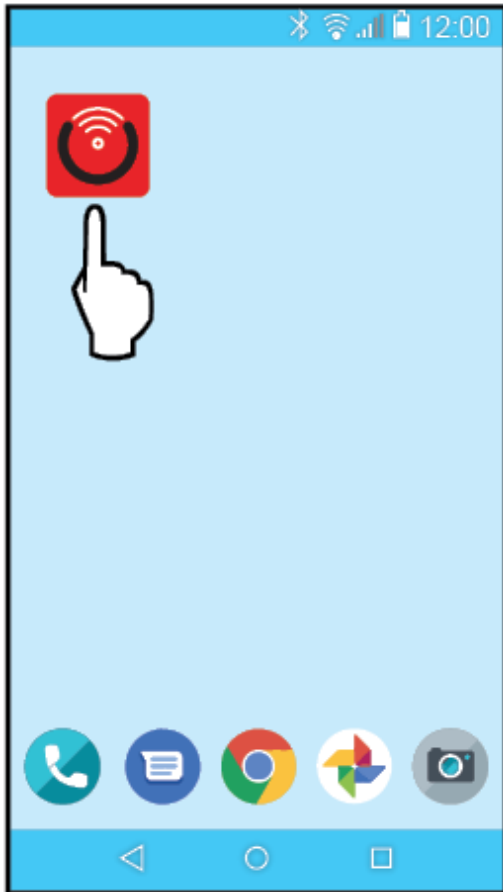

Figure 75. Find your Raymote Mobile App Icon
2. Find the Raymote mobile app icon on your device. See **Figure 75**.